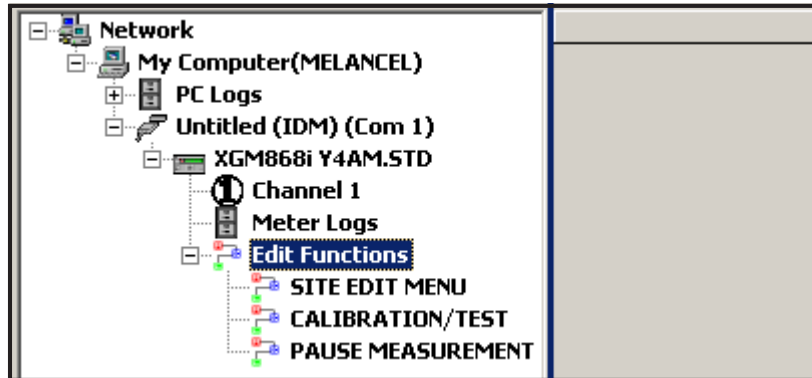

Figure 40: Menus in the *Edit Functions* Option
2. Expand the *Edit Functions* option. The window now appears similar to that shown in Figure 40 on page 95.